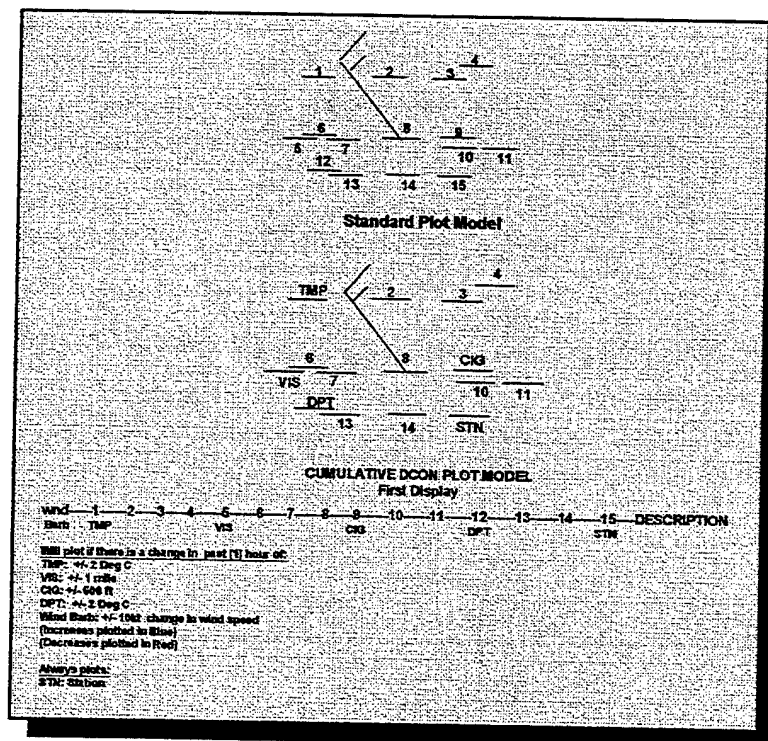

Figure 3. Delta Con Plot Model for Display 1 (Cumulative)
In order to show changes in individual parameters without showing the entire plot, thus eliminating potential cluttering and allowing for quick reference, you must develop a separate plot model for each parameter change that you wish to isolate and identify. Seven specialized plot models are used in Δ-Con. Figures 3 and 4 show parameter placement within the plot models. Follow the steps in Table 1 for creating your plot models. When you're done, your final plot table should resemble Figure 5.
- Click *STN* and assign it to position #15 within the plot model (see Figures 3 and 4).